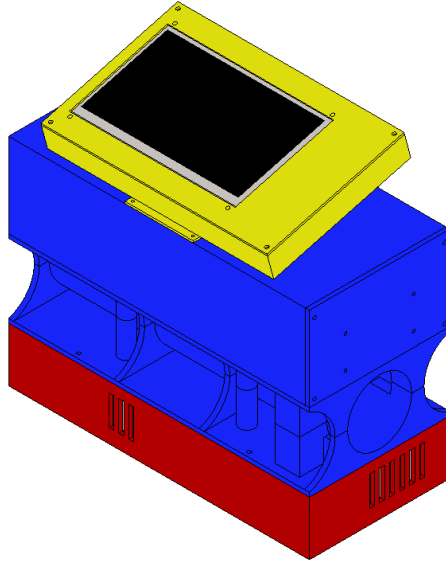

Figure 40: *Electronics case* attached on top of the *upper PVC adapter*.
10. Attach the *electronics case* to the *upper PVC adapter*. Use four (4) M3 screws for this process. The assembly is shown on figure 40.